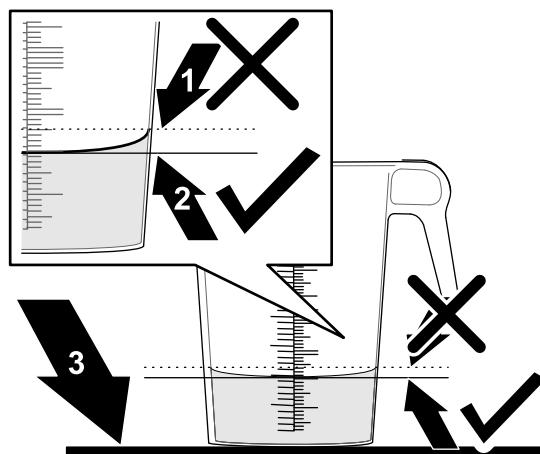

Figure 47
6. Set the graduated container on a level surface and note the fluid volume (Figure 47).